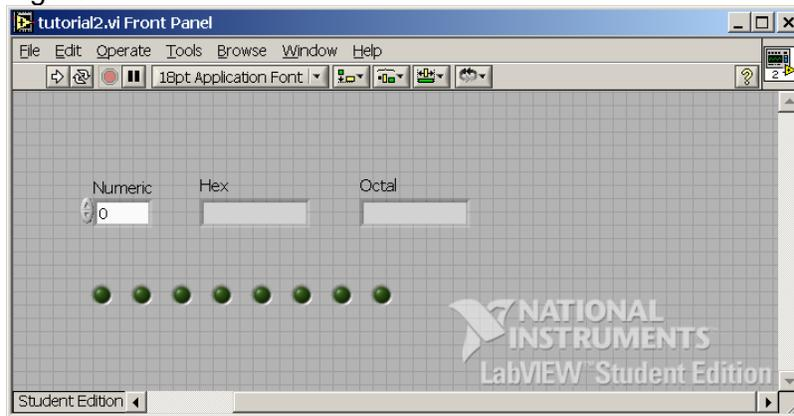

Figure 4
- The next step will be to display our numeric input with an LED array. To accomplish this, we need to first add 8 LEDs to our front panel. Since it is annoying to have labels on each individual LED, you may choose not to display the labels by right clicking on the LED and deselecting Label from the Visible Items. You should end up with something similar to Figure 4.